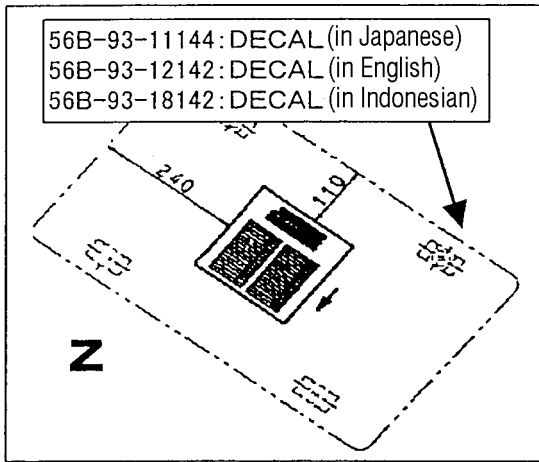
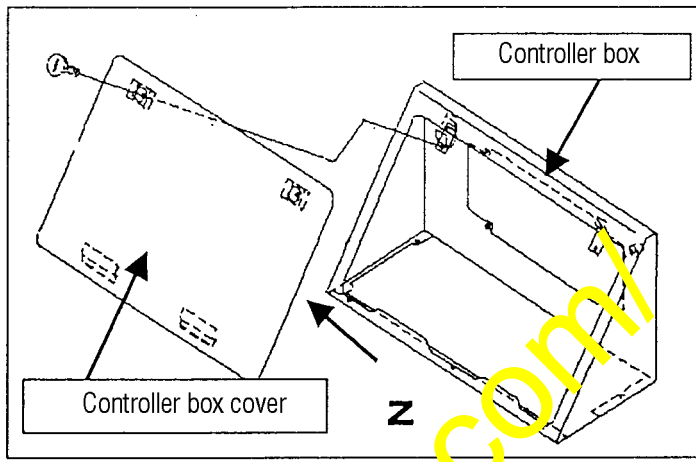

Fig. 32
Fig. 33
- (1) Remove the current relay decal being applied to the rear surface of the controller box cover and apply the new relay decal to the same position. Refer to Fig. 32 and Fig. 33 regarding the part number and the applying position.